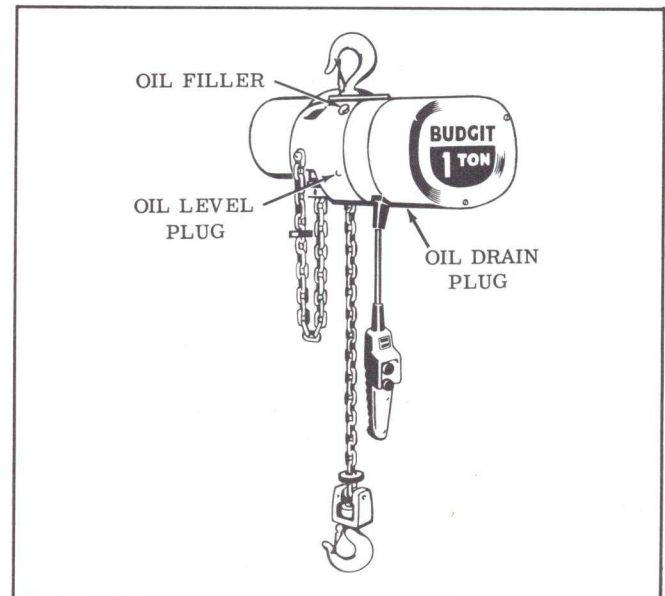

Figure 4-1. Location of Oil Filler and Plugs
**Check Oil Level.** (Fig. 4-1) The gear case has been filled with oil, to the proper level at the factory. However, the oil level should be checked before hoist is operated.
### 4-2. CHANGE GEAR CASE OIL (Fig. 4-1)
(1) Check to see that bolts securing motor to frame are tight. Also check for any visible damage to motor, such as a cracked end bell or dented stator housing. Replace damaged parts.
(2) Check hoist frame for signs of visible damage. If frame shows evidence of fracture, the hoist should be disassembled and inspected for further signs of damage from possible overloading. Replace damaged parts. Also check condition of limit lever.
(3) Check for possible damage to electrical compartment cover. Be sure screws holding cover are tight.
e. **Check Oil Level.** Remove oil level plug (fig. 4-1). If oil level is not even with bottom of tapped hole, add Automatic Transmission Fluid, DEXRON® Type, to bring to proper level.
(1) Check all wiring and terminals. Insulation should be